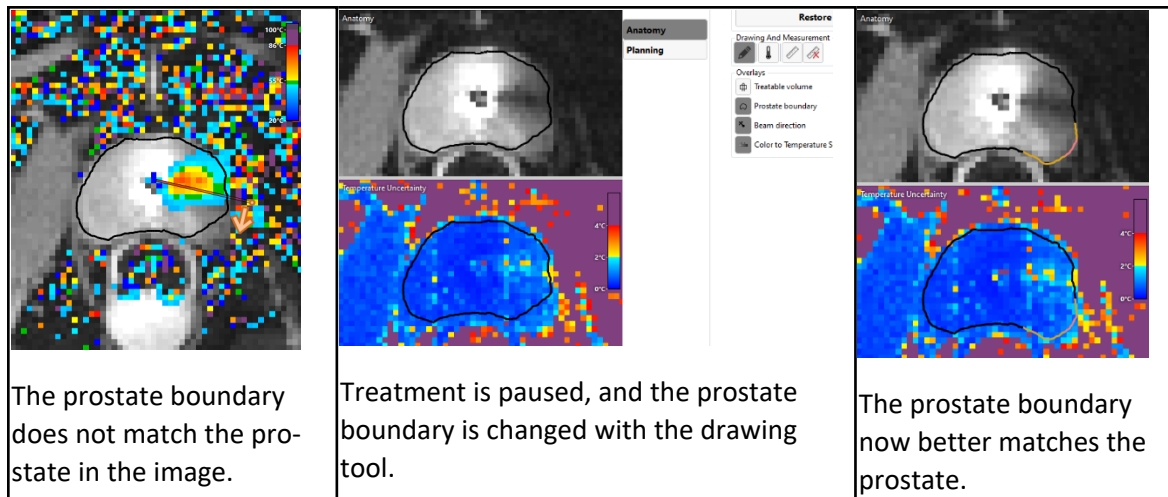

Figure 58: Editing the prostate boundary
3. Click the drawing tool. The TDC displays a new pane showing the prostate boundary contour and the temperature uncertainty for the selected slice (*Figure 58*).